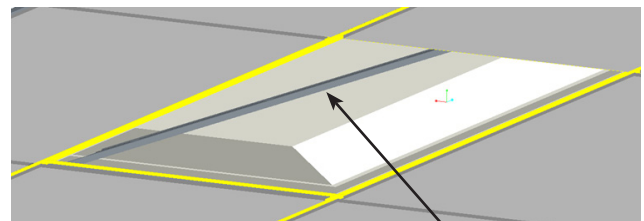

Fig. 1
2. Gently lift the original luminaire housing and slide in both side brackets between the **housing** and the T-grid. Lower the housing to rest on the brackets, securing them in place. (fig. 1 & 2)